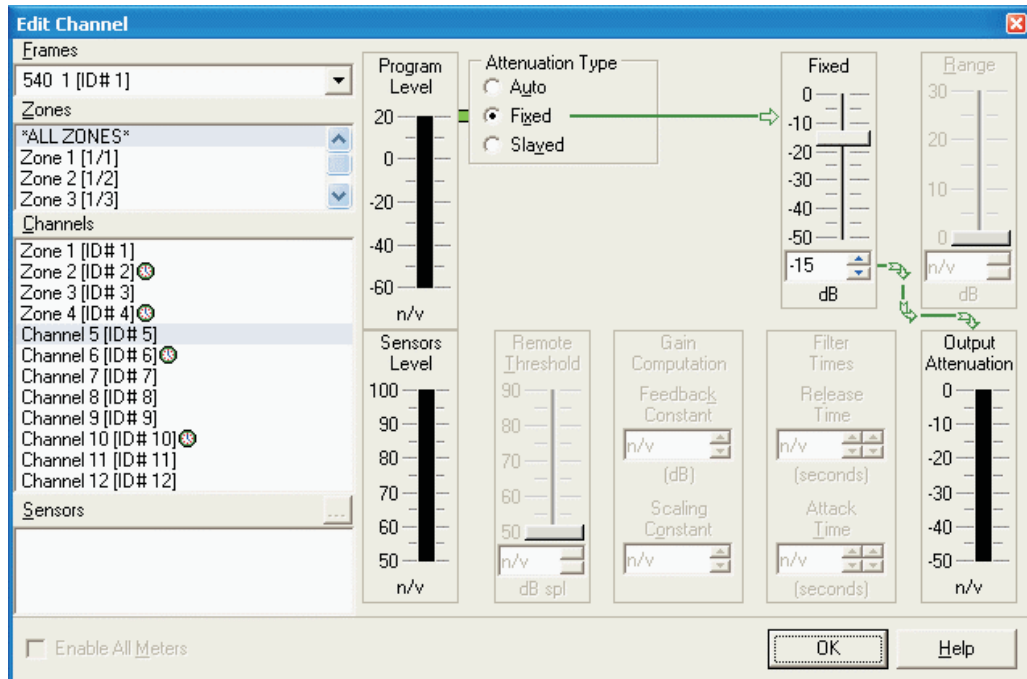

Figure 31 - Edit Channel, Offline, Fixed Mode
- **Fixed mode** is the non-varying value of attenuation. See Figure 31.